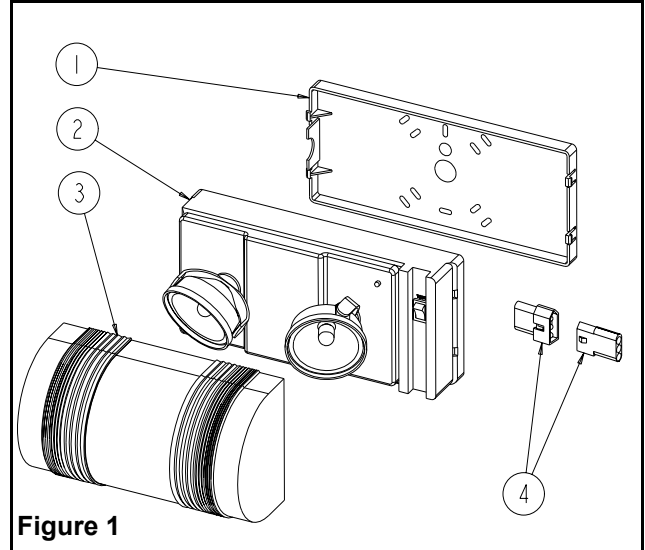
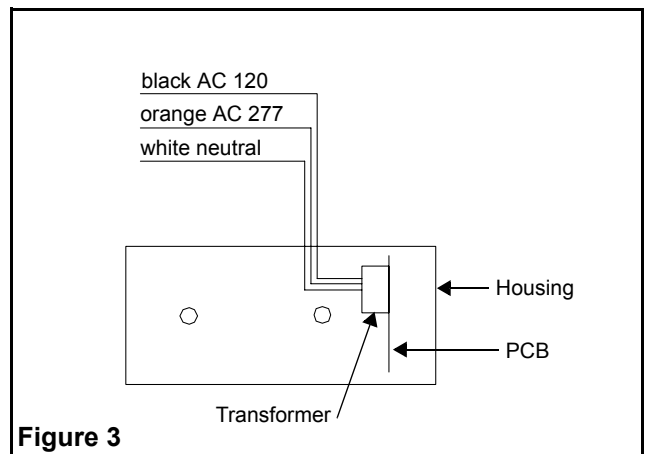

Figure 1
Figure 3
3. Locate the AC connector (see fig. 1) and attach to the unswitched AC circuit. Make the proper connections. Our system can accept input voltages of 120 VAC or 277 VAC (see fig. 3).